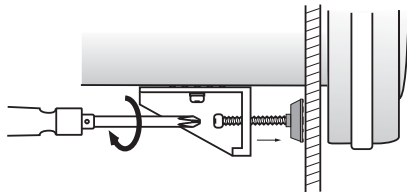

Fig. 4
5. Fasten the longer screw to fix the radio to the dash board firmly. (Fig. 4)